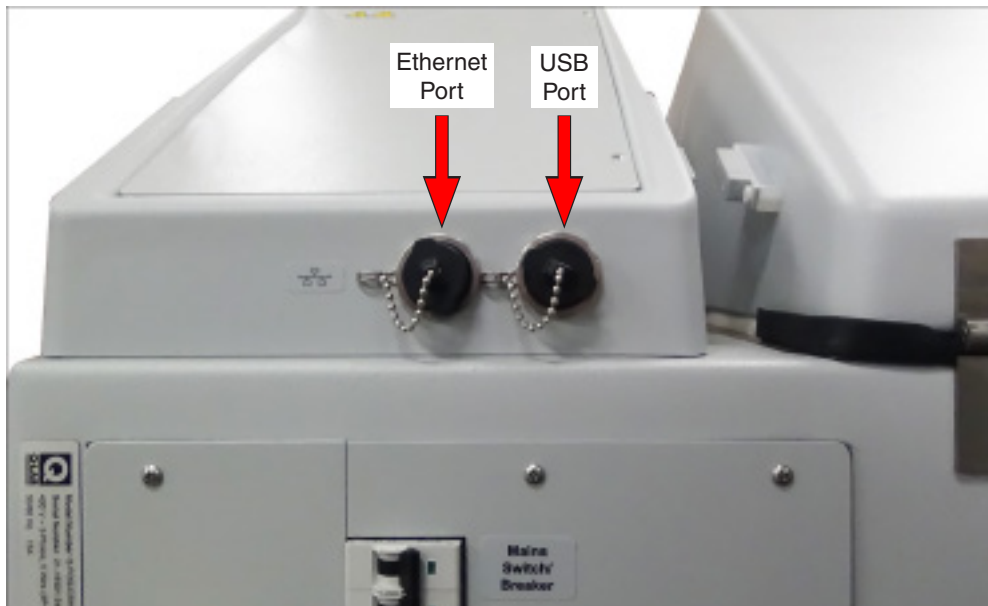

Figure 13.1: Ethernet and USB ports located on rear of control top.
- The Q-FOG main controller has the capability to transfer data via Ethernet (Figure 13.1).